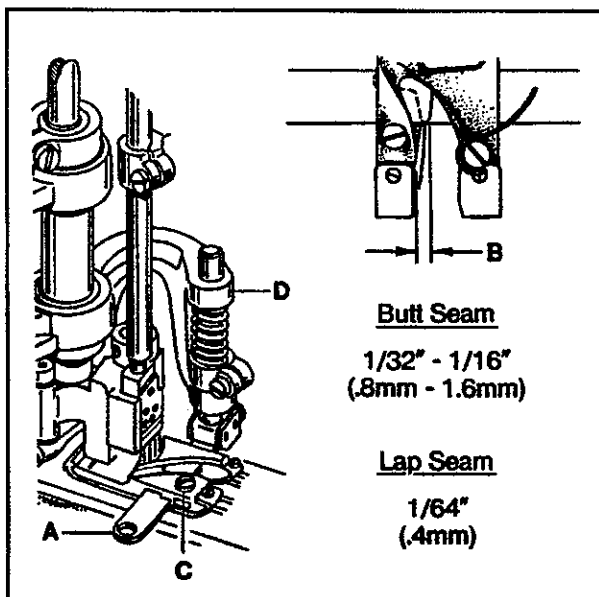

FIG. 28
To make the adjustments for a flat, butt seam, position lower knife (A, Fig. 28) in the foot so it extends $\frac{1}{32}$ " to $\frac{1}{16}$ " (0.8mm to 1.6mm) past the right side of the left toe (B) (approximately between the second and third needles). Loosen screw (C) and move knife in or out as required. Tighten screw (C) securely.
To make the adjustments for a lap seam, position lower knife (A, Fig. 28) in the foot so it extends $\frac{1}{64}$ " (0.4mm) past the right side of the left toe (B) (approximately even with the first needle). Loosen screw (C) and move knife in or out as required. Tighten screw (C) securely.